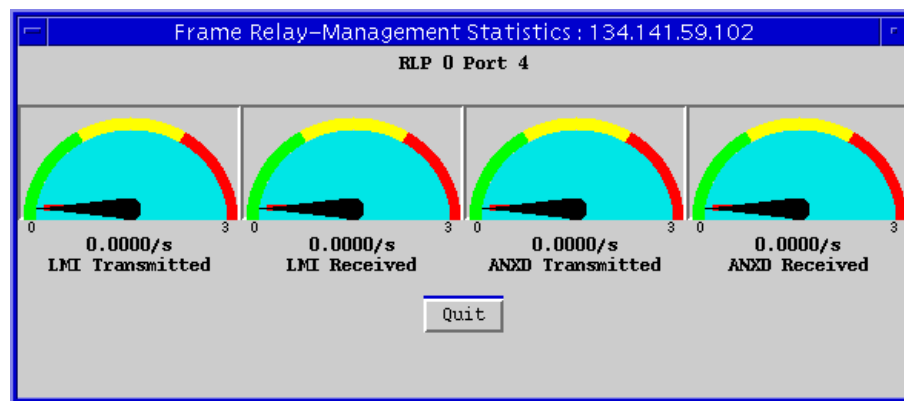

Figure 5-5. Frame Relay Management Stats
2. Drag down to **Frame Relay Management Stats**, and release. The Frame Relay Management Statistics window, Figure 5-5, will appear.